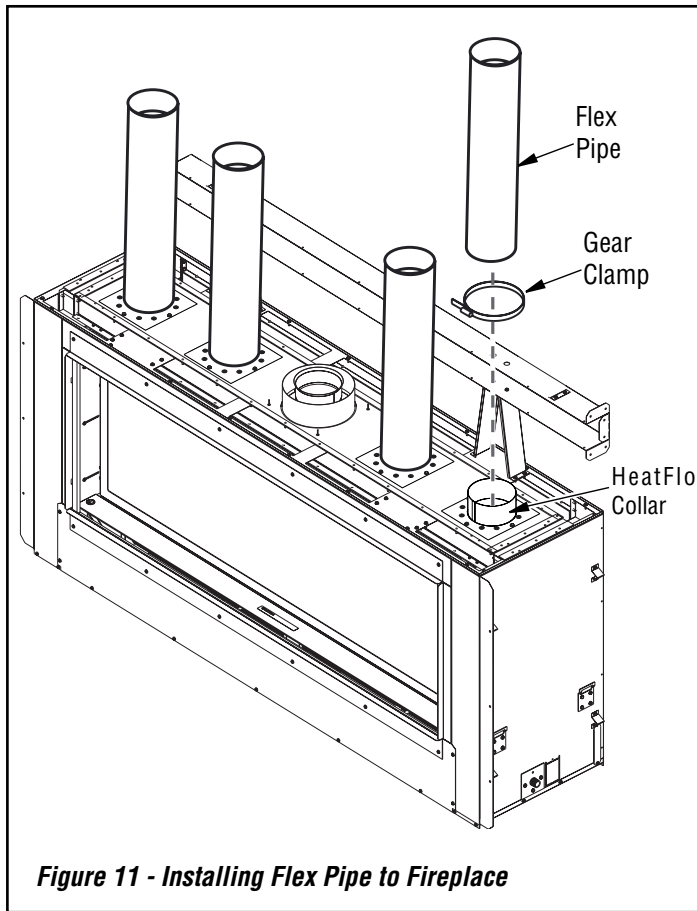

Figure 11 - Installing Flex Pipe to Fireplace
6. With fireplace and heat register in place, attach the approved flex pipes (supplied with kit) to each of the collars on the fireplace top and secure them with gear clamps (provided with kit) see **Figure 11. NOTE: DO NOT SLICE PIPES!**